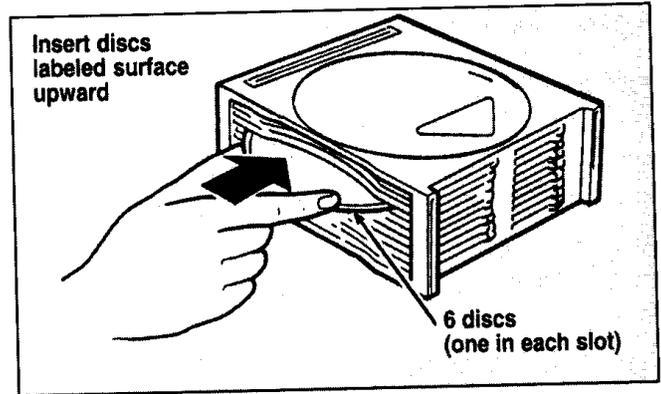

Figure 3
3. Load discs into the disc magazine slots (numbered I through 6) one at a time with labeled surfaces upward, starting with bottom slot number I (Figure 3).